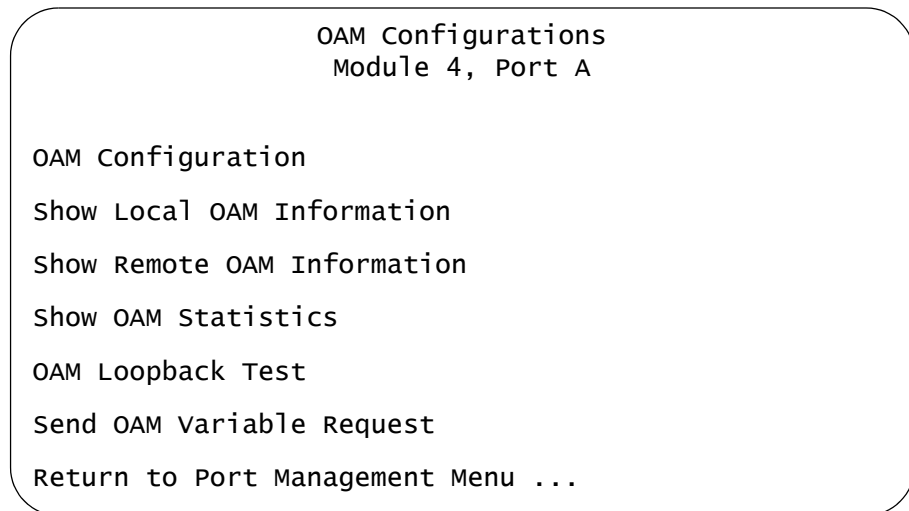

Figure 89. OAM Configurations Menu
4. From the Port Management Menu, select **OAM Configurations** to display the OAM Configurations menu in Figure 89.
4. From the Port Management Menu, select **OAM Configurations** to display the OAM Configuration Menu in Figure 89 on page 204.